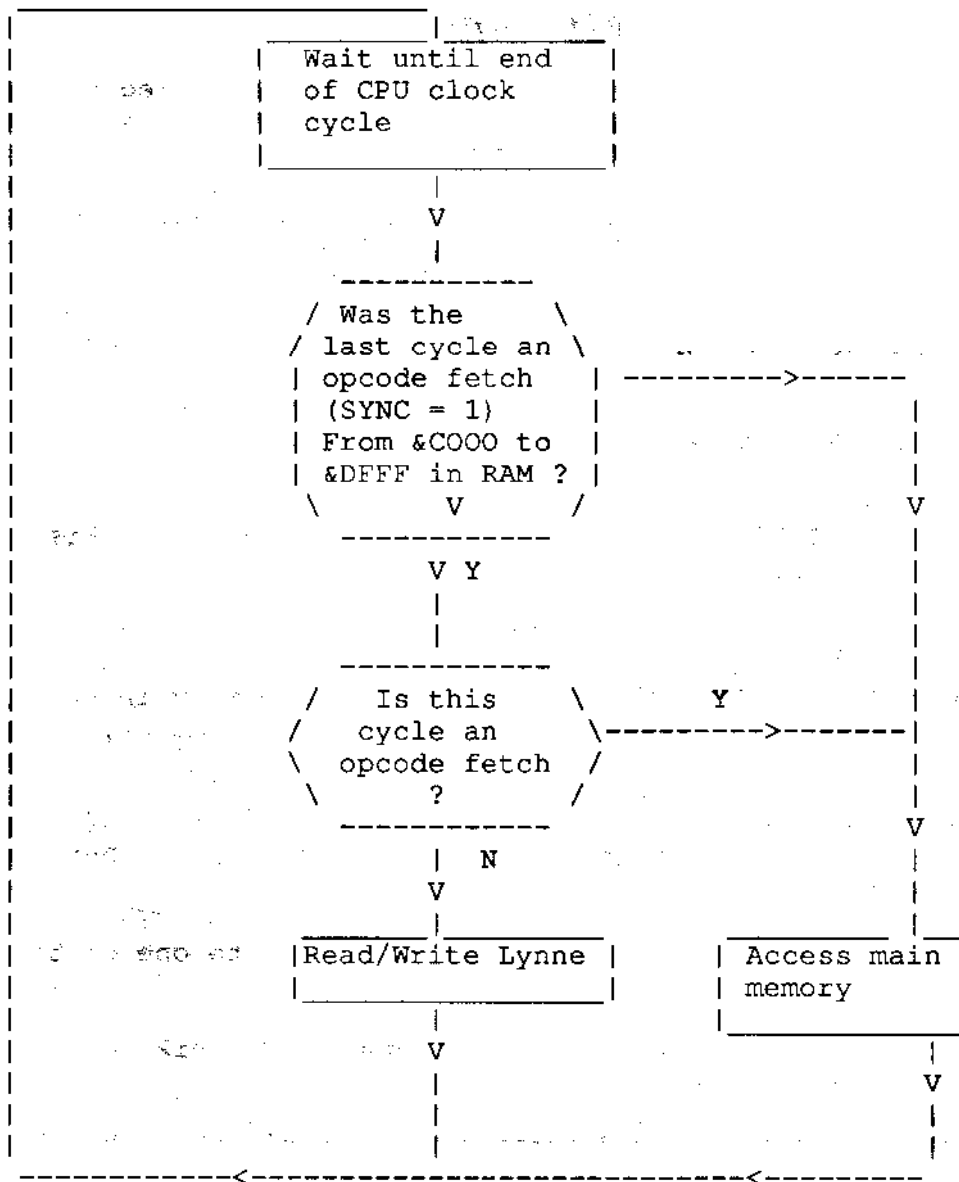

Figure 2
- \* When bit E in ACCCON is set, if the address range is &3000 to &7FFF the CPU will read/write Lynne according to the flow shown in figure 2.